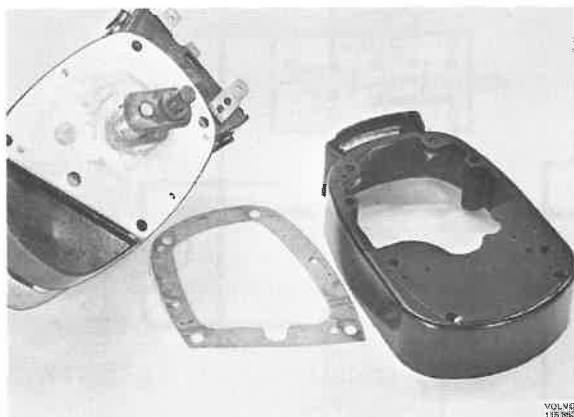

Fig. 36-15. Removing the housing and gasket
4. Remove the lower housing half with gasket, see Fig. 36-15.